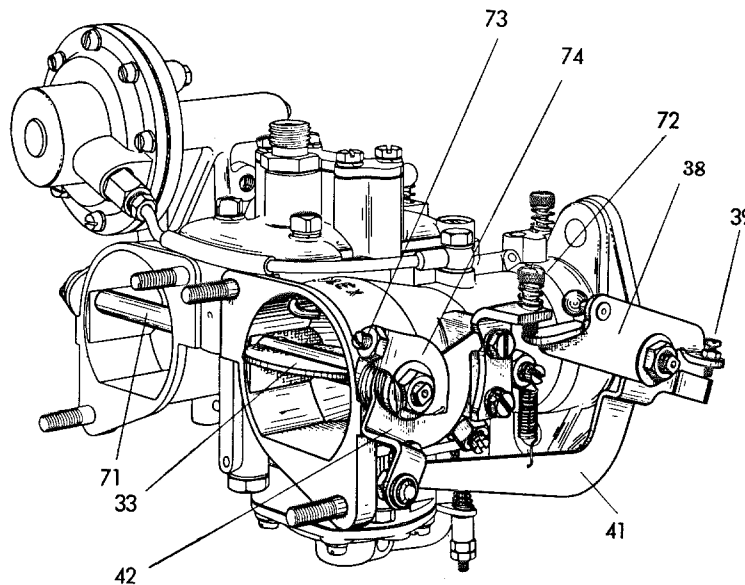

Fig. 07-0/35
When the starter mechanism is not in operation under normal running conditions, the choke valve (33) is open (Fig. 07-0/35).